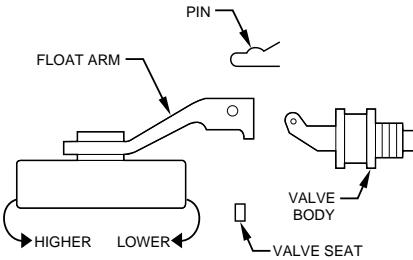

Fig. 11—Float Arm Removal
The Model HUMBBLFP is controlled by a float valve. Turning off the furnace will not affect the water flow until float level is achieved. (See Fig. 11.)
6. Inspect the float assembly. Remove the float arm from the valve body by sliding out the pin and lifting off the float arm. (See Fig. 11.) Inspect the rubber valve seat located inside the float arm. If the seat appears to be nicked or worn, invert the seat or replace it with the spare valve seat